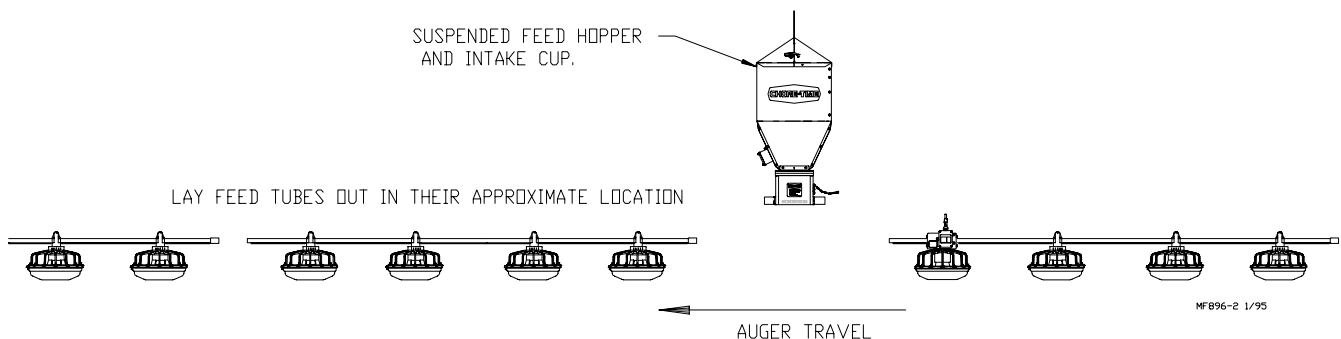

Figure 18. (Side View: Standing outside of the loop.)
1. Position the tubes end to end in approximately the final location of the line. The feeder tubes should be installed so that the expanded end of each tube points in the opposite direction of auger travel. **See Figure 18**.